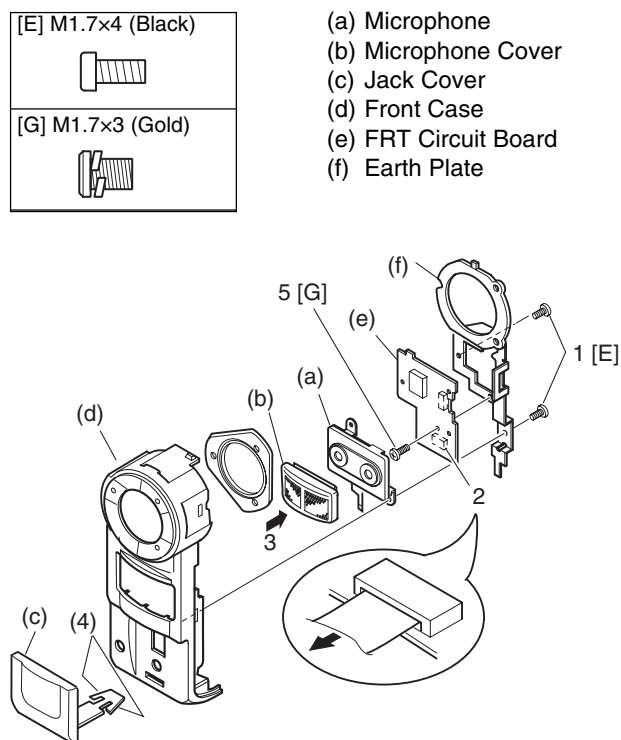

Fig. 5-3-7 Microphone, Microphone Cover, Jack Cover, Front Case, and FRT Circuit Board
(6) Microphone, Microphone Cover, Jack Cover, Front Case, and FRT Circuit Board (Fig. 5-3-7)